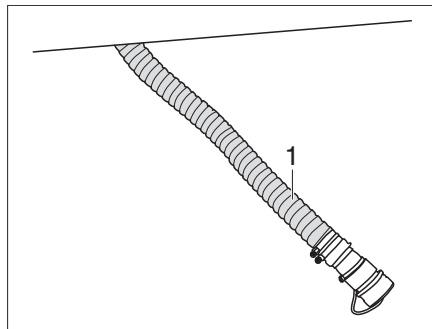

Fig. 357 Emptying the cassette of the macerator toilet
- Detach the drain hose (Fig. 357,1) below the vehicle and position it into the disposal station.
- Leave the drain hose (Fig. 357,1) in the disposal station.
- Store the drain hose (Fig. 357,1) under the vehicle.